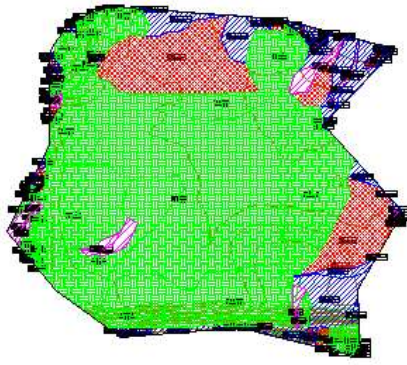

Figure 4-42 Watersheds displayed after performing the **Watersheds** analysis
8. Again, choose OK to close the Surface Properties - Surface1 dialog box; different hatch patterns representing different watershed regions in the surface are displayed, as shown in Figure 4-42. Each watershed area has a tag that displays information about that watershed.